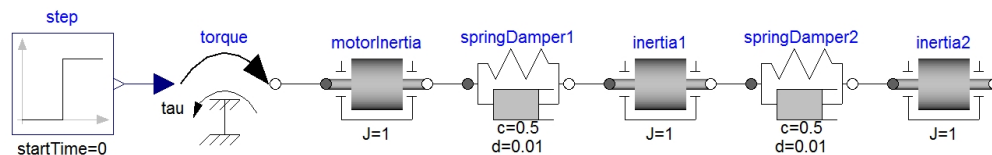

Figure 7: Dymola model of motor with two elastic loads
- (a) Start Dymola. Choose 'File' → 'New' → 'Model'. Enter the name of the model (for example 'MotorWithElasticLoads'). Let the rest be empty, and press 'OK', and then 'Accept' at the warning that will appear². In the pane at the left hand side, press/unfold 'Modelica' to open the Modelica Standard Library. Open 'Mechanics' → 'Rotational'. Drag and drop 'Sources' → 'Torque', 'Components' → 'Inertia' and 'Components' → 'SpringDamper' to put together the motor with two elastic loads as shown in Figure 7. Use a 'Blocks' → 'Sources' → 'Step' to attach a step input to the torque.
pane, the symbol w is used for rotational speed), and compare to the previous problem. Also comment on the amount of information in the graphical view of the model (Figure 7) with the Simulink version of the overall model.